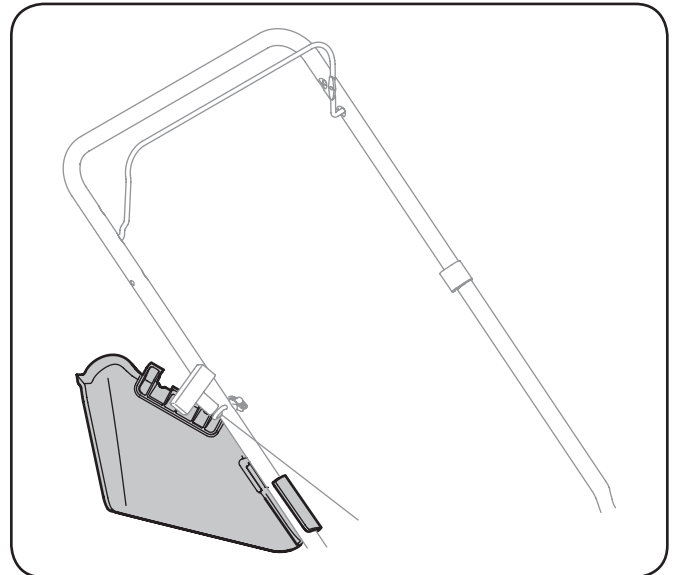

Figure 7-2
- If applicable, secure side discharge chute to handle as shown in Figure 7-2.